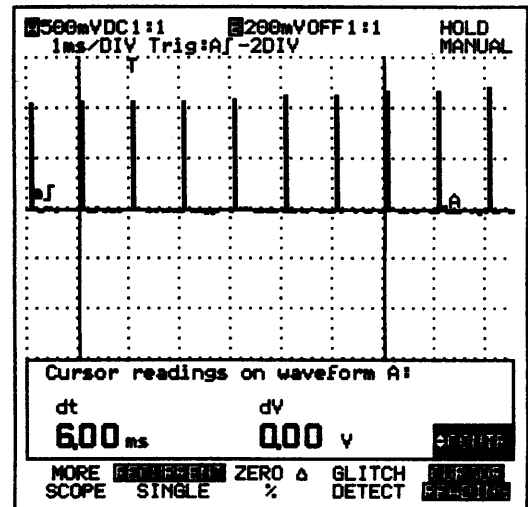

Figure 4.15 Cursor lines on marker pulses
- G Position the cursor lines with the LEFT CURSOR and the RIGHT CURSOR key, so that the vertical cursor lines cover a distance of six time marker intervals. See Figure 4.15.